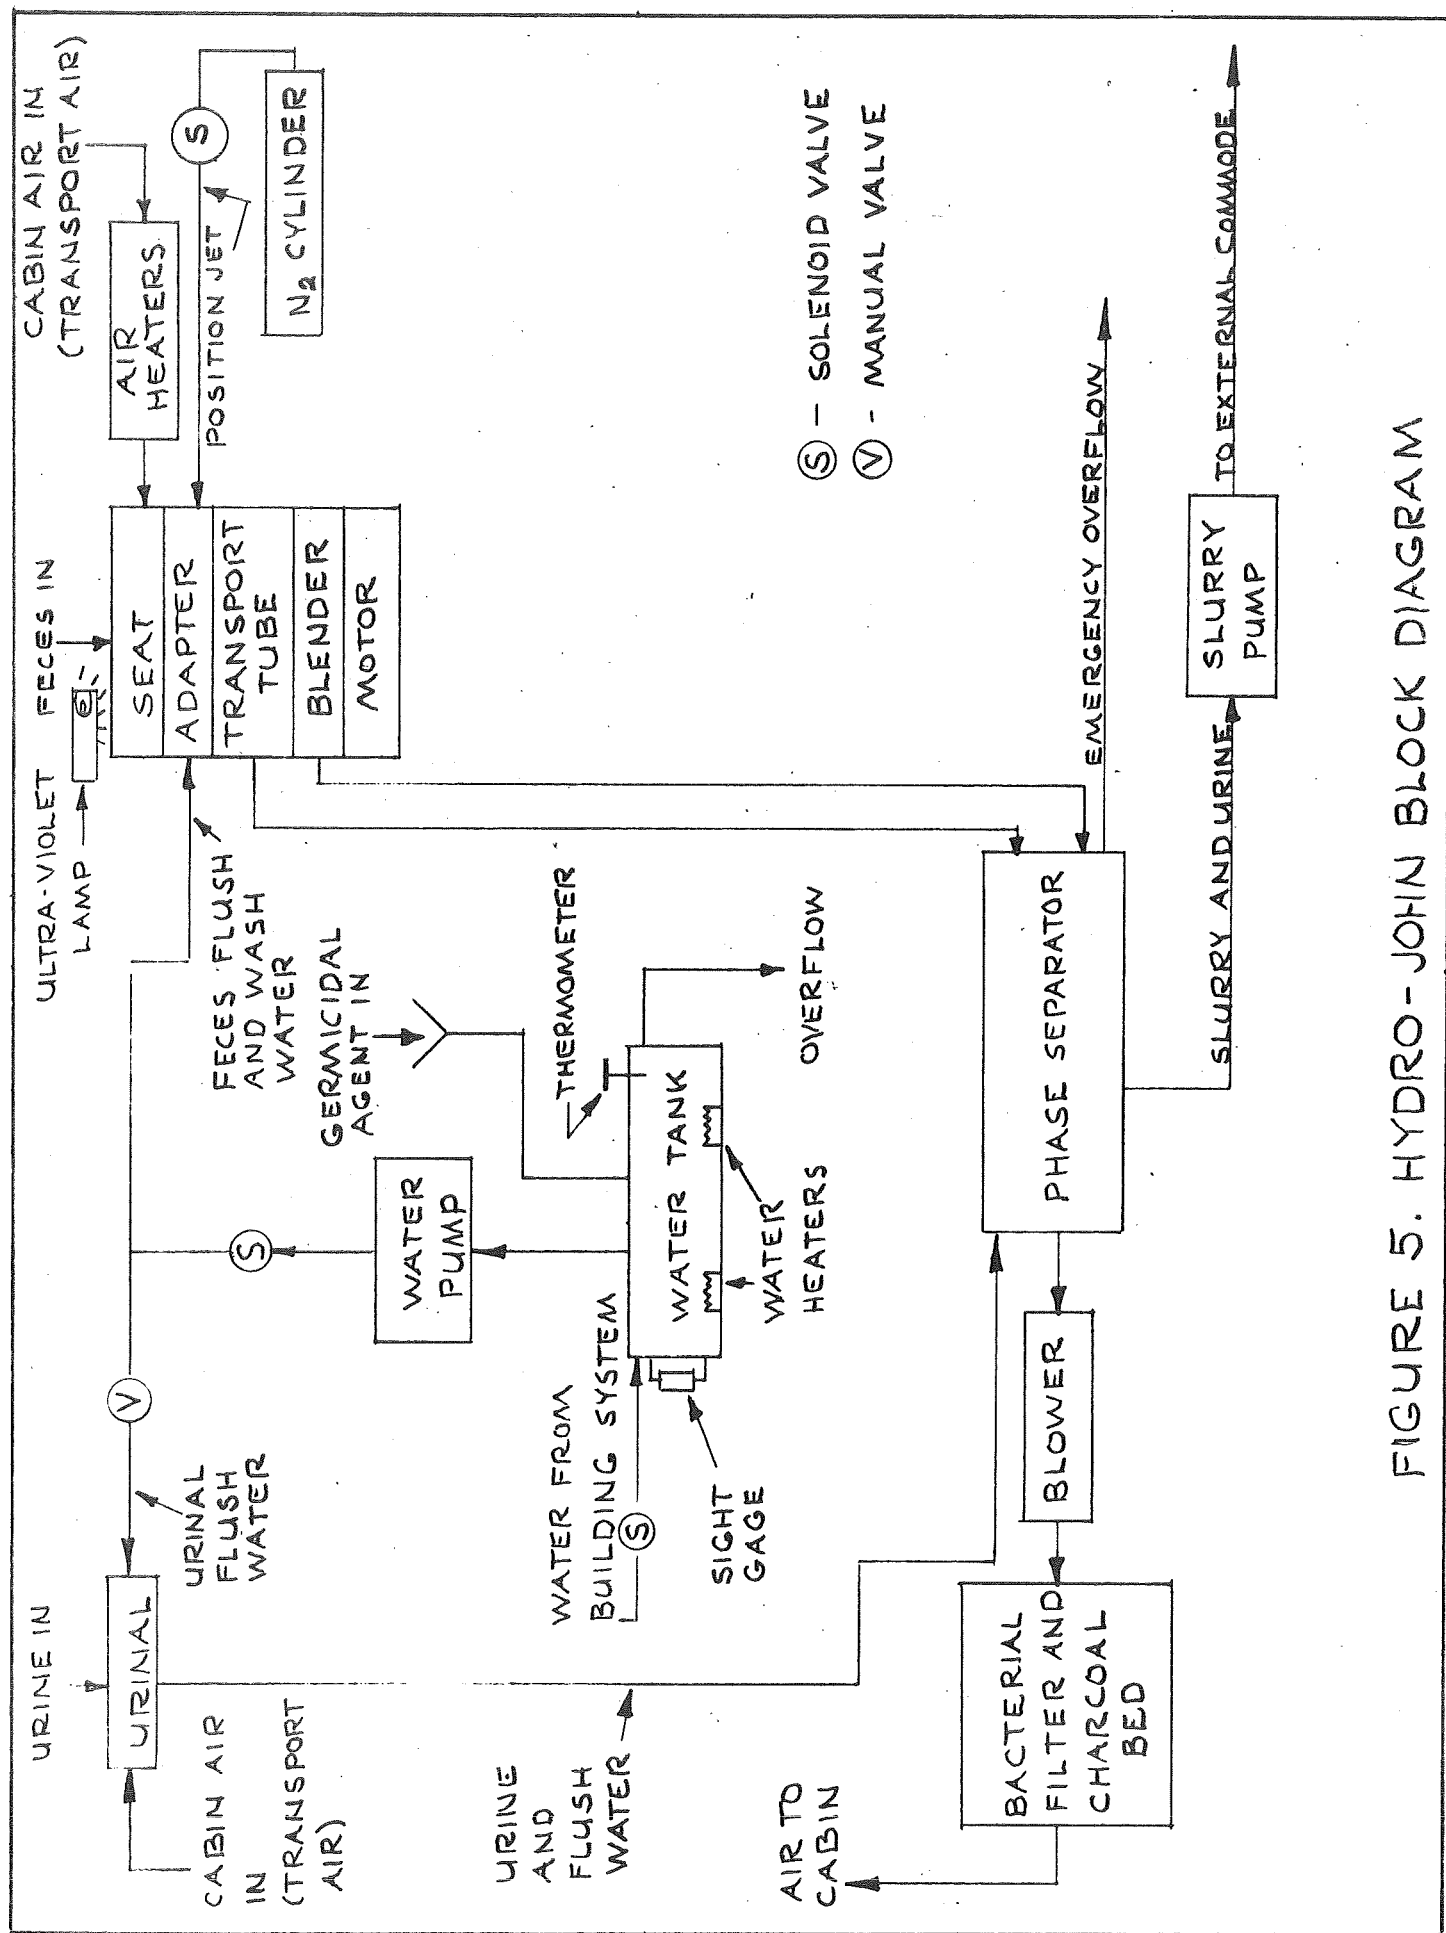
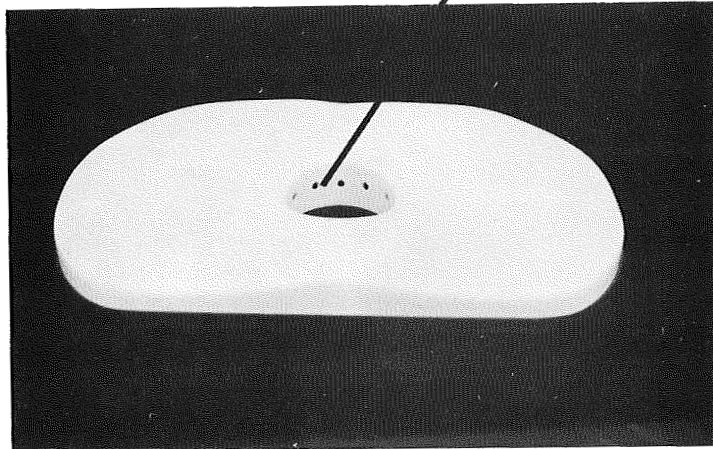

FIGURE 5. HYDRO-JOHN BLOCK DIAGRAM
FIGURE 10. SEAT
The system as shown in Figure 5 is composed of four major subsystems; namely, pneumatic, transport air, flush water, and electrical. The first three are activated by the electrical subsystem and function as described in the following paragraphs.
The feces and urine are deposited into the unit as shown in Figure 5. A steady flow of transport air draws the feces into the blender and the urine into the phase separator. When the user activates the flush cycle after defecation and micturition flush water washes his anal area and the urinal. This wash water is drawn into the system in the same manner as the feces and urine. When a small quantity of water has accumulated in the blender, the feces already present is mixed with the water to form a slurry. After a timed period of mixing, the resulting slurry is pumped out of the unit along with the urine. During the pump-out cycle, flush water continues to flow thereby washing both the user and the collection system. Following the flush cycle, the user is dried by the transport air which can be heated if desired to hasten the drying process. Detailed descriptions of the subsystems are contained in the following paragraphs and diagrammed in Figures 6 and 7.
This subsystem circulates cabin air by means of a blower through openings under the seat (Figure 10) past the user's anal area, into the transport tube and phase separator through the blower and discharges it back to cabin atmosphere downstream of the blower after passing it through a bacterial filter-charcoal bed combination as shown in Figure 5. The blower starts when the lid on the unit is raised and before the user is seated. In a zero gravity environment the air would serve the purpose of transporting feces away from the user and into the blender blades located at the bottom of the transport tube. In addition, it serves the purpose of drying the user after a flush/wash cycle has been completed. Raising the lid also shuts off a germicidal lamp which radiates to the seat when the unit is not in use and the lid is down. In the unlikely event that the lid switch S2 fails closed, the lamp will stay on when the lid is raised. DO NOT LOOK DIRECTLY AT THIS LAMP WHILE IT IS ENERGIZED SINCE ITS RADIATION CAN CAUSE PERMANENT EYE DAMAGE.
4.2 Seat (See Figure 10)